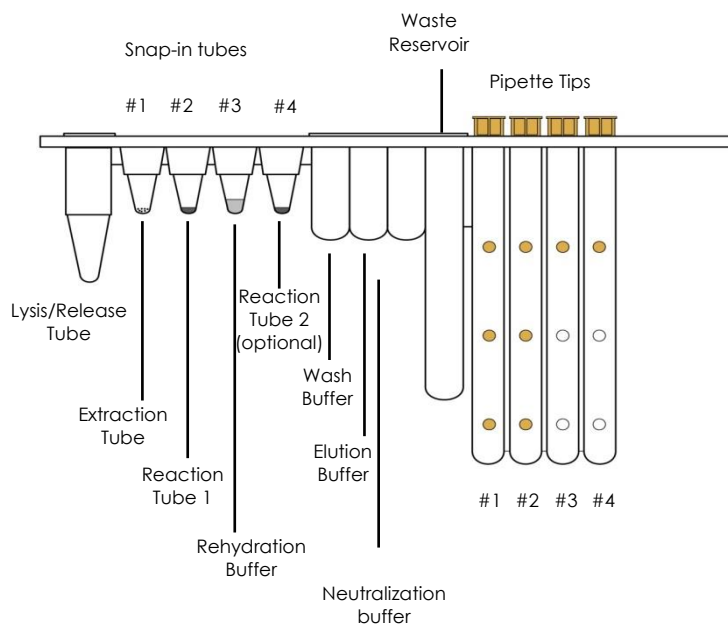

Figure 1. BD MAX™ TNA Reagent Strip (TNA) from the BD MAX™ ExK TNA-2 kit.
- 2) Remove the required number of BD MAX™ ExK™ TNA Extraction Tubes (B4) (white foil) from their protective pouch. Snap the Extraction Tube(s) (white foil) into its corresponding positions in the TNA strip (Snap position 1, white color coding on the rack. See Figure 1). Remove excess air, and close pouch with the zip seal.
- 3) Determine and separate the appropriate number of VIASURE *Vancomycin resistance* reaction tubes (blue foil) and snap into their corresponding positions in the strip (Snap position 2, green color coding on the rack. See Figure 1.
- i. Note: If you choose the format "Dual Master Mix Concentrated Lyophilized MM with Rehydration Buffer (Type 5)" (Section 8.3.1), determine and separate the appropriate number of additional VIASURE reaction tubes (different foil) and snap into their corresponding positions in the strip (Snap position 4, blue color coding on the rack. See Figure 1). Remove excess air, and close aluminum pouches with the zip seal.
- 4) Remove the required number of Rehydration Buffer tubes (rust foil) and snap into their corresponding positions in the strip (Snap position 3, non-color coding on the rack. See Figure 1). Remove excess air, and close the pouch with the zip seal.